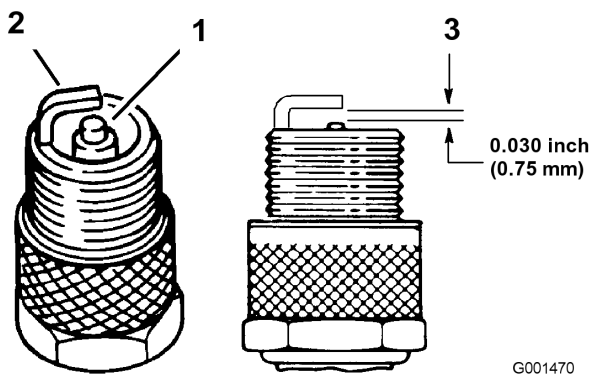

Figure 24
1. Look at the center of the spark plugs (Figure 24). If you see light brown or gray on the insulator, the engine is operating properly. A black coating on the insulator usually means that the air cleaner is dirty.
3. Check the gap between the center and side electrodes (Figure 24). Bend the side electrode (Figure 24) if the gap is not correct.
3. Connect the wires to the spark plugs (Figure 24).